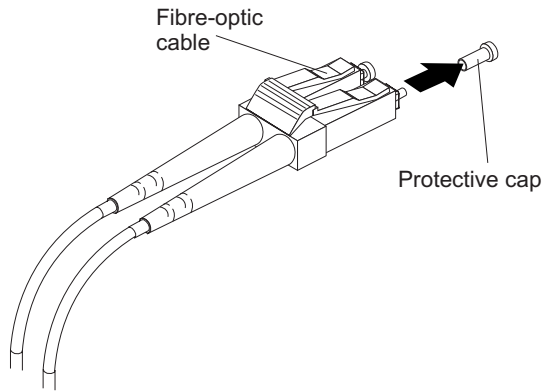

Figure 35. Removing fiber-optic cable protective caps
3. Remove the two protective caps from one end of the LC-LC cable, as shown in Figure 35 on page 56. Save the protective caps for future use.